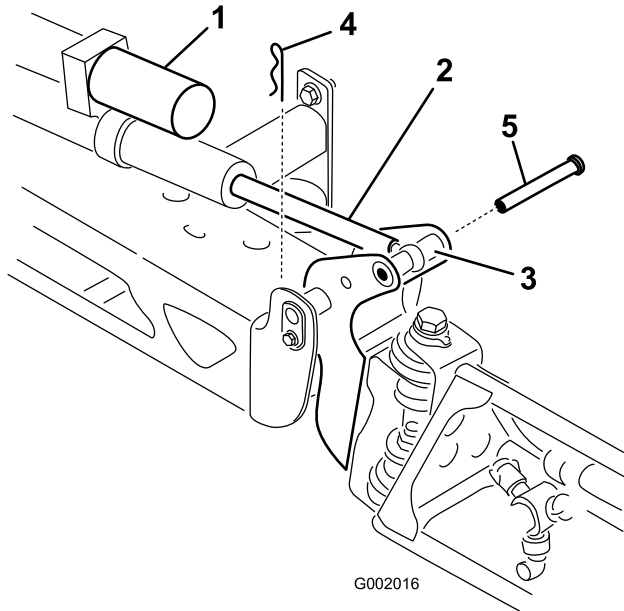

Figure 18
2. Remove the cotter pin from the pivot pin (Figure 18).
3. Lift up on the boom and remove the pin (Figure 18).
8. While holding the boom, insert the pin through both the boom pivot and the actuator rod (Figure 18).